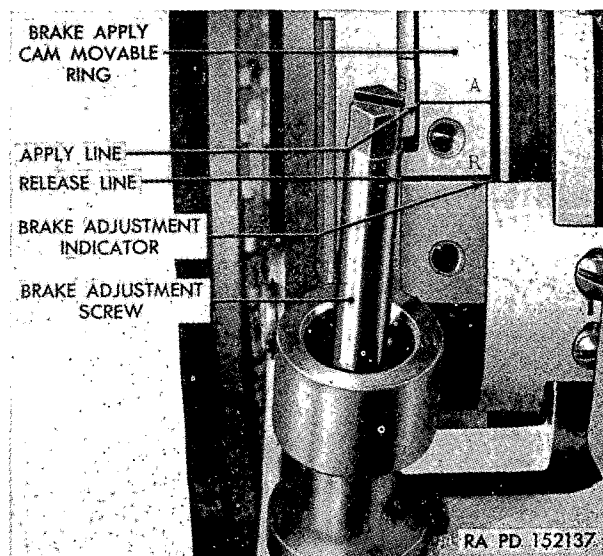
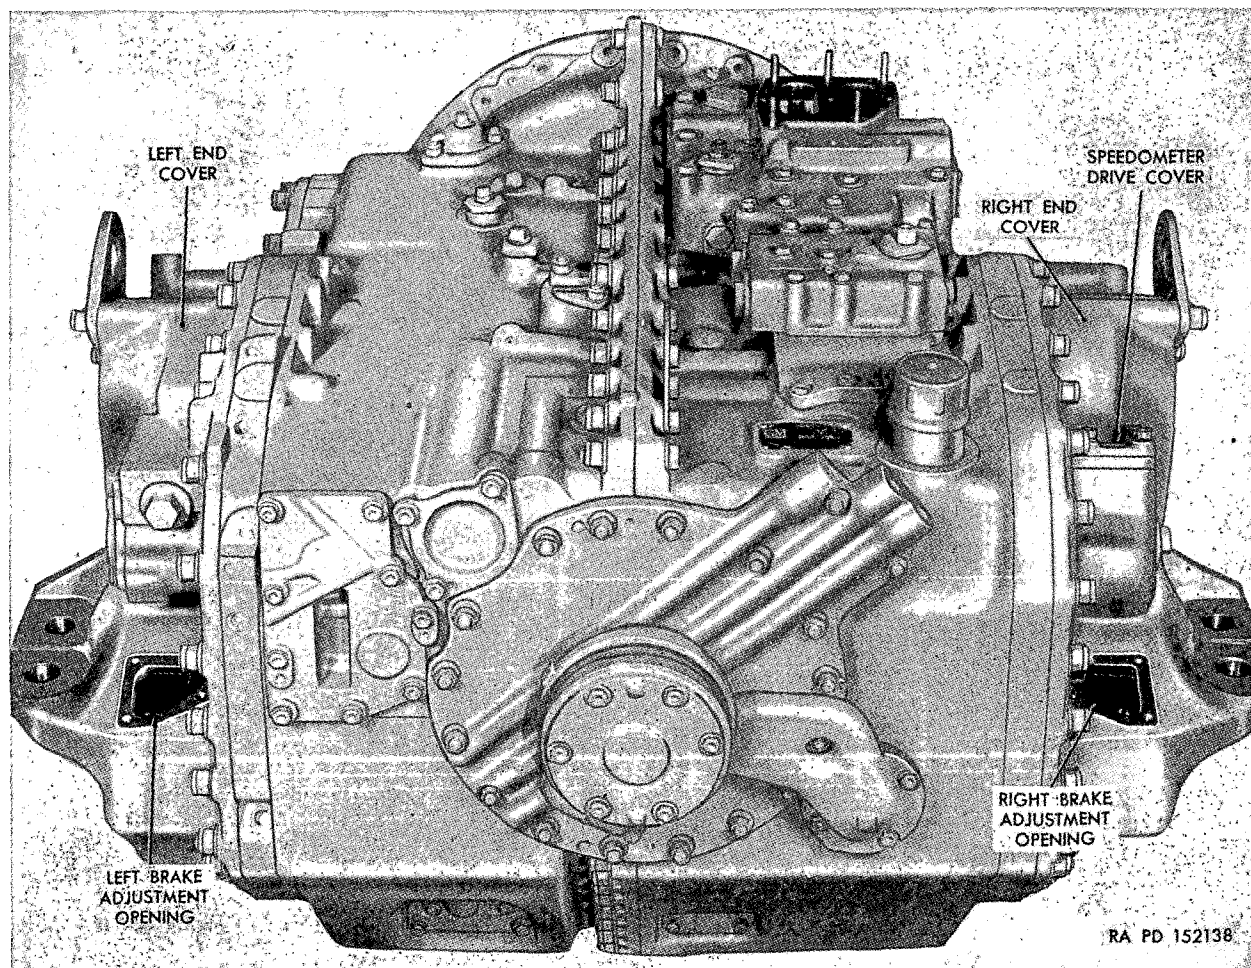

Figure 398. Brake adjustment components.
Figure 399. Transmission with brake adjusting covers removed.
- (2) With the brakes released, look into the brake adjustment opening, checking to see that the "R" line on the brake-apply-cam ring lines up with the top of the indicator (fig. 398).
- (3) If the "R" line does not line up with the indicator, remove the end cover and adjust the indicator so that, with the brakes released, the top edge of the indicator is opposite the line stamped "R."
- (4) Apply the right brake with 240 pound-feet of torque on the brake apply lever.
- (5) With the right brake fully applied, look into the brake adjustment opening and check the position of the brake-apply-cam ring (fig. 399). The "A" line on the cam ring should line up with the top of the indicator (fig. 398). If it does not, release the brake pedal and proceed with the adjustment.